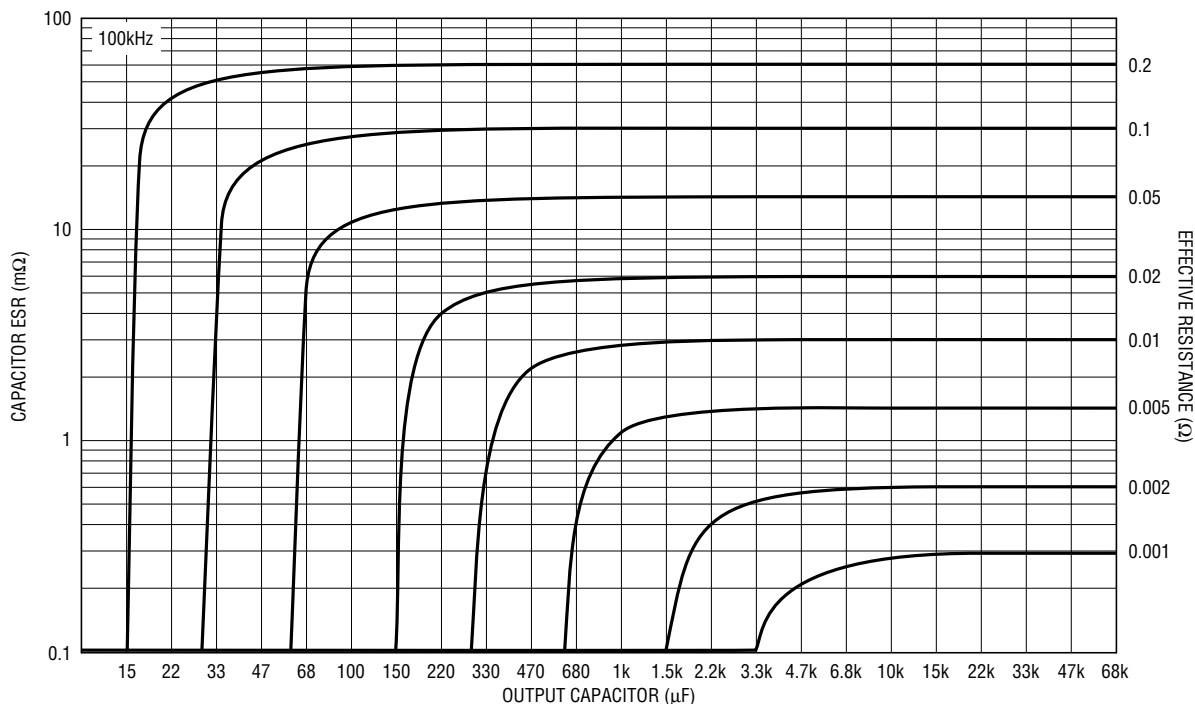

Figure 59. RMS Current to Peak-to-Peak Ripple
Figure 59 is a guide to assist in output capacitor selection and/or estimating peak-to-peak output ripple voltage. Divide the output ripple specification (expressed in mV_{P-P}) by the maximum output capacitor RMS current obtained from the design graphs to determine the effective resistance needed in the output capacitor. Using the right-hand scale of Figure 59, follow the isocline that approximates the needed effective resistance, calculated above. Looking at the scale to the left, determine the maximum allowable value for total capacitor ESR. Pick a capacitor for the output, and plot its capacitance and ESR on Figure 59. If the point is outside the effective-resistance isocline, you will either need to pick another capacitor or parallel multiple capacitors.
1. You must parallel capacitors of the same capacitance and ESR to correctly use Figure 59.
- Plot the $15\mu\text{F}$, 0.001Ω capacitor on Figure 59.
DENORMALIZING FIGURE 59 FOR OTHER FREQUENCIES
As far as Figure 59 is concerned, a $100\mu\text{F}$ capacitor at 100kHz will look like a $60\mu\text{F}$ capacitor at 60kHz . All other parameters stay the same. To plot a capacitor of $x\mu\text{F}$ operating at $y\text{kHz}$, first calculate a new capacitance, z , where $z(\mu\text{F}) = y(\text{kHz})/100\text{kHz} \cdot x(\mu\text{F})$, then plot on Figure 59 using its native ESR value.